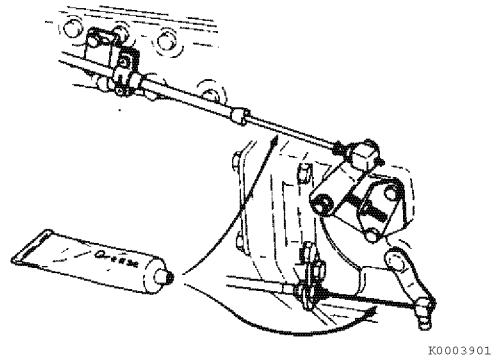

Figure 7-98
3. The exposed portion of the inner cable should be coated with a water-resistant grease for rust prevention and smooth movement of the cable (**Figure 7-98**).